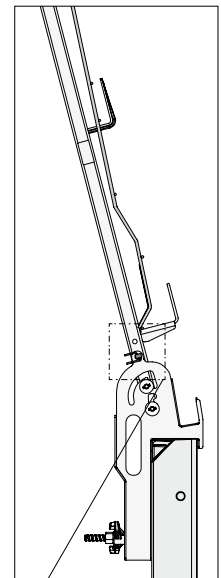

Fig. A7.34
- Guardrail Post is now secured against tipping. (Fig. A7.34)